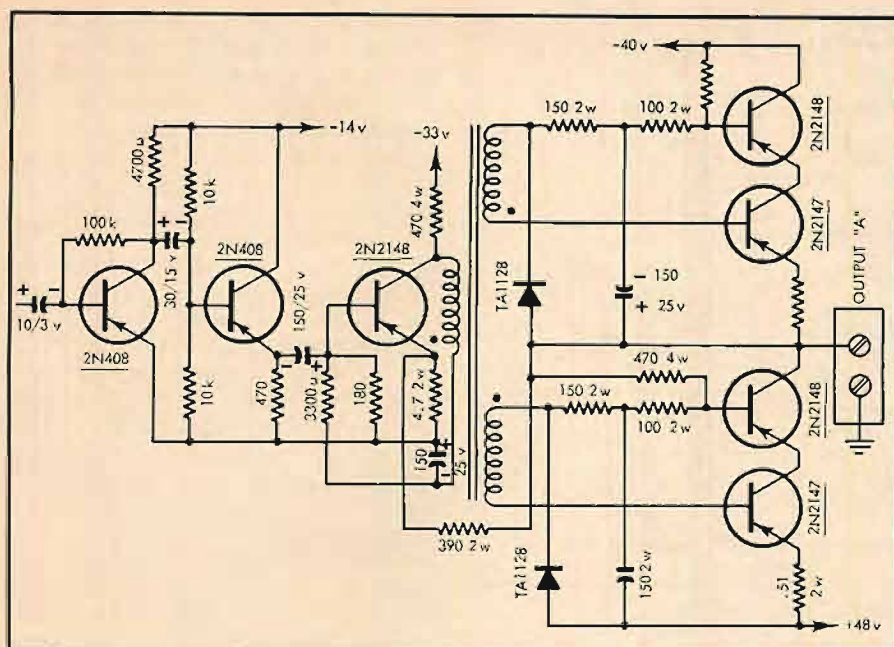
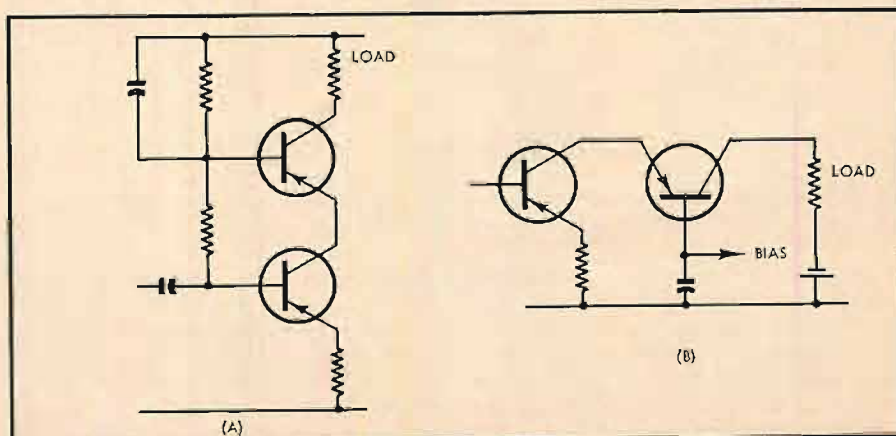

Fig. 4. Variation of basic circuit used in particular amplifier, Knight KN-450.
Fig. 5. The cascode circuit, grounded-emitter grounded-base amplifier gives low internal impedance.
Figure 4 shows more covers from '47 and '48—the first with one of the first published photos of an anechoic chamber and the remainder devoted to master and studio control facilities of radio stations.
Fig. 4. Four of the earlier covers of the magazine: August, 1947, showing an anechoic chamber; December, 1947, and July and December, 1948, each with radio station installations.
Over the years the front cover of *AE* has gradually shifted from the professional to the home user. There was even a brief interlude of an insert “magazine within a magazine” called *Video Engineering*, but that was only a flash in the pan, so to speak. Figure 5 shows more covers ranging from ultrasonics to the home installation. In order to appeal more to the audiofan, the “Engineering” was dropped from the title beginning in January, 1954, and in February a whole new cover design appeared—the one at the far right in Fig. 5. The designer of the new cover, Leo Leonni, felt that because of the diversity of subject material inside the book, the cover should show something technical and something not technical—hence the schematic along with a photo of a home installation or equipment for some months. Late in 1957 another cover design evolved which has continued up to now—but this month’s cover should not be considered another “permanent” change.
Fig. 5. Four more early covers: April, 1949, illustrating some ultrasonic experiments; March, 1950, the first of the short-lived Video Engineering inserts; January, 1951, with four home-type amplifiers using different tube types; and March, 1955, with a new cover style.
The variation shown in Fig. 4 is relatively uncomplicated and used a driver
in (A) and (B) of Fig. 5. The driver transistor is, of course, a power transistor. In the circuit of Fig. 4 the feedback is very simple, just a resistor connected between the live end of the speaker and the emitter of the driver transistor but in a version of this circuit described by RCA the ground end of the speaker is taken through a small resistor in the driver emitter lead to provide current feedback as well.
A feature of the cascode circuit is that with the high voltage, some 80 volts centered on ground, it becomes worthwhile to provide a supply which is virtually a twin supply. The circuit of Fig. 4 runs one half-wave rectifier into the negative line, starting with -40 v. for the output stage and dropping through a succession of RC filters to feed the earlier stages with lower and quieter supplies, while a second half-wave rectifier, in the opposite sense, provides a positive 42-volt line for the other half of the output stage. If the output stage is fully driven there should be 40 volts peak across the speaker.